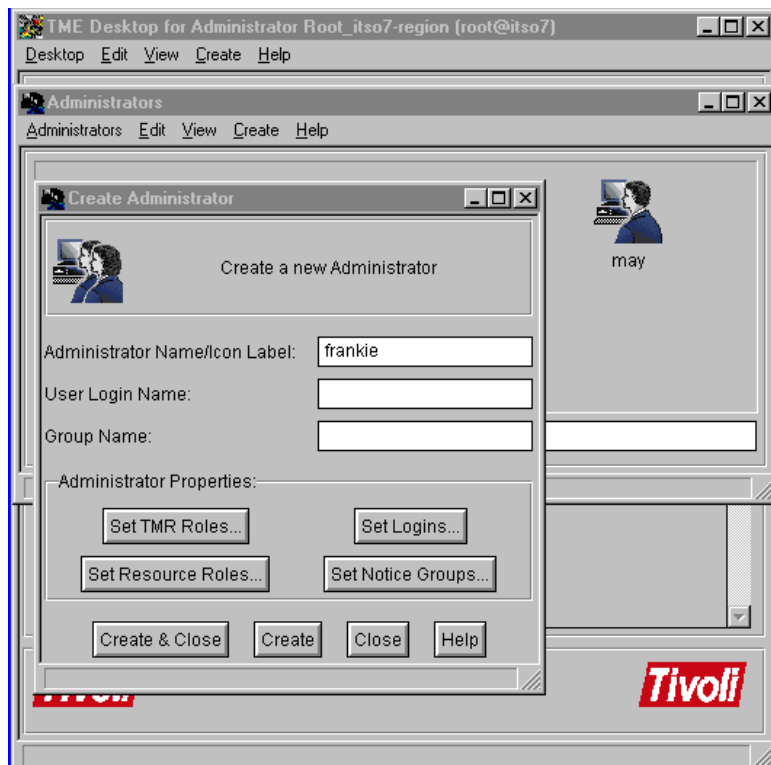

Figure 6. Create a new Administrator
3. Press **Set Logins** to specify the login name. This field is important because it will be used to determine the UID with which many operations are performed. *It also represents a UID at the operating system level.* This is shown in Figure 6 on page 23.